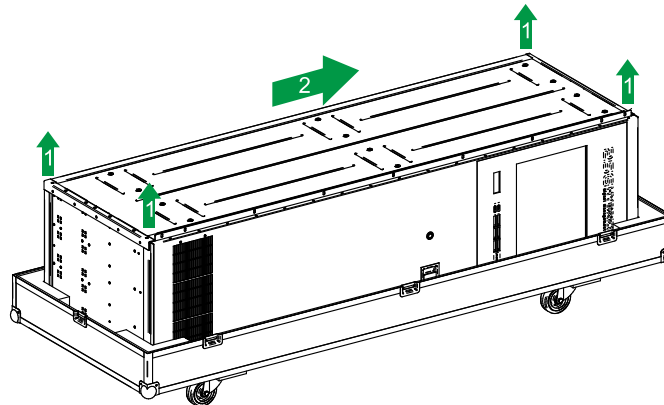

Figure 3-2. Removing from the base plate
Step 3. Make sure that the matrix is lifted at least by four people; grabbing at the four heels and remove it from the base plate (Figure 3-2).